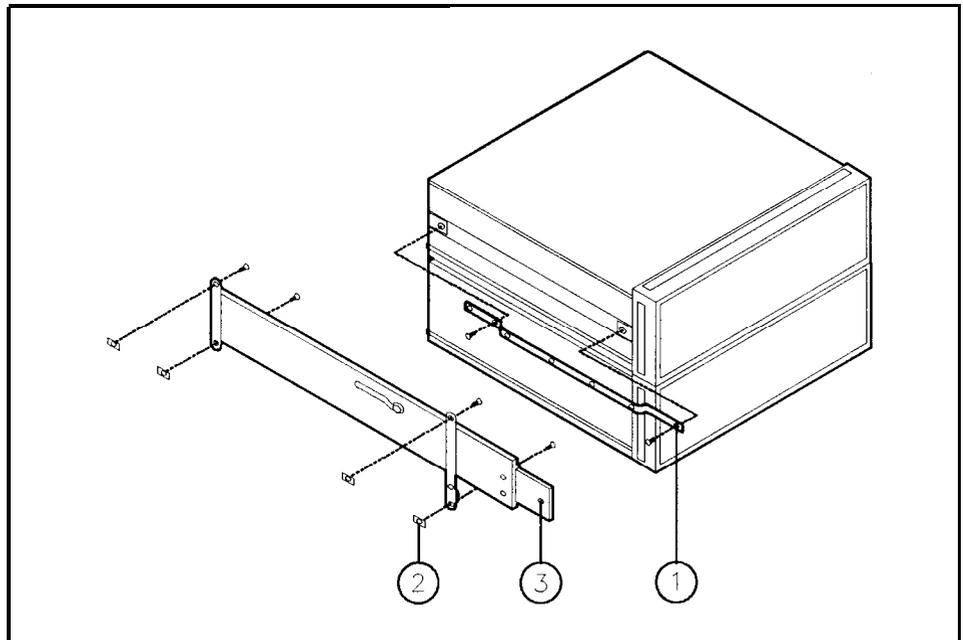

Figure 2-13. Attaching the Inner-Member Brackets
17. Attach one slide inner-member bracket to each side of the instrument using two M5x0.8x10 pan-head screws per side. See callout in 1 of Figure 2-13.
- Insert two Unistrut nuts, callout 2 in Figure 2-13, into each of the two vertical columns on the left side of the system cabinet. Insert two Unistrut nuts into each of the two vertical columns on the right side of the system cabinet.
- Bolt an outer slide mount to the Unistrut nuts in each side of the systems cabinet, using four M5x0.8x12 pan-head screws per side. See callout in 3 of Figure 2-13.